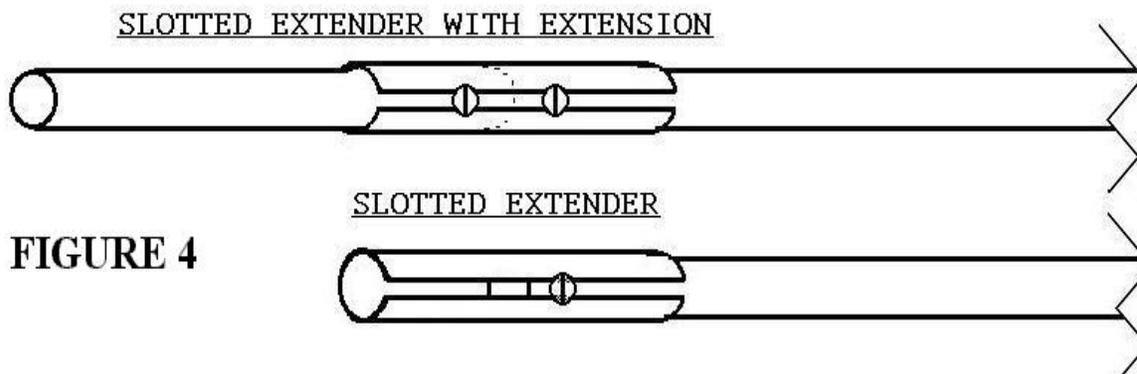

FIGURE 4
J) Locate the extension rod with the attached slotted extender. Locate the Mid tuner on the longer standoffs. Slide the slotted extender over the bottom end of this 102" rod until it butts against the extension. Rotate the extender until the hole in the mid tuner rod lines up with the slot in the extender. Insert a screw into this hole and slot and tighten. See figure 4.